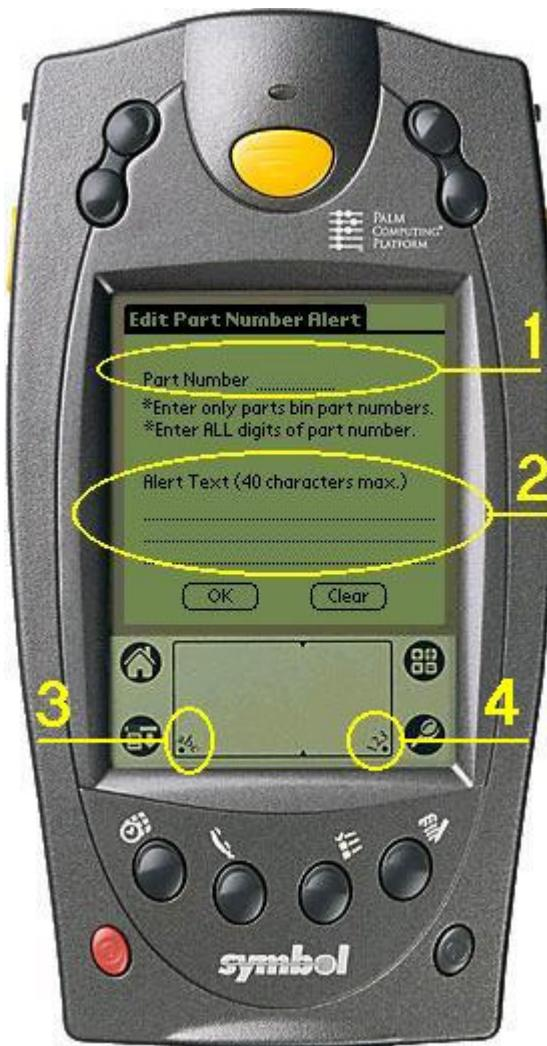

FIGURE 25. KEYBOARD NUMBERS AND LETTERS MENUS
The Edit Part Number Alert screen (see figure 24) allows an alert to be entered or edited. First tap the line next to the Part Number with your stylus (see item 1, figure 24). To enter the part number call up the numeric keyboard as shown on item 4, Figure 25. When entering the Parts Bin Part Number NOTE: That you must enter ALL digits of the part number. For example if it is an 8-digit part number, then enter all 8 digits. After the parts bin part number has been entered, use your stylus to tap the line below Alert Text (see item 2, Figure 24) and then call up the text keyboard (see item 3, Figure 24) to enter the alert text.